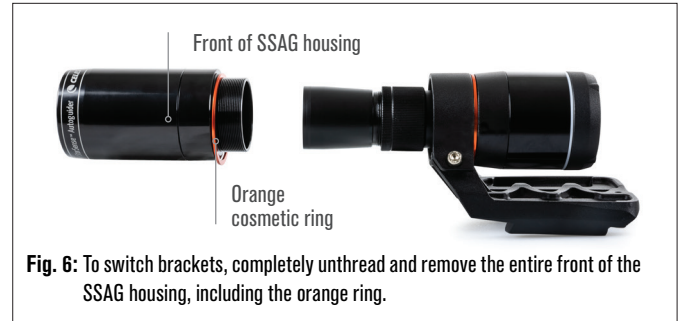

Fig. 6: To switch brackets, completely unthread and remove the entire front of the SSAG housing, including the orange ring.
1. Unthread SSAG's front housing completely and remove it. Doing this will expose SSAG's optical tube (Fig. 6). Also, remove the orange front cosmetic ring.